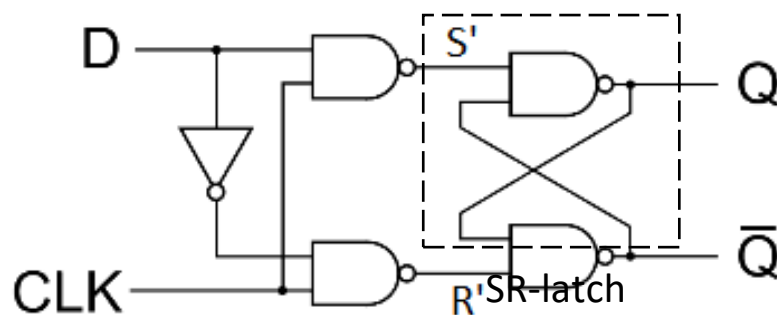

Figure 4: D-latch
Now, you will have a clock signal (CLK) and data signal (D) as given in Figure.4. Please apply D and CLK as given below. Only use Q signal as the output. (neglect Qbar)
Using two D-latches that you implemented in Figure.4, a D-flip flop can be obtained as shown in Figure-5. This circuit is a superior candidate for being a memory element. Duplicate your D-latch circuit and make appropriate connections to get D-flip flop. Only use Q signal as the output. (neglect Qbar) Please apply CLK and D signals as given below. You are going to use a PWL source for the data signal.